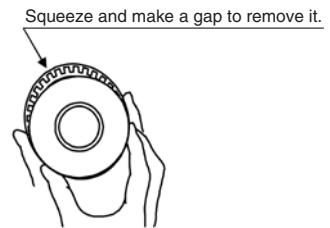

Fig. 2 Removal of piston seal
- ③8 Piston seal: Remove the piston seal. (Fig. 2)
- ④0 Cylinder tube gasket: Insert a watchmakers screw driver to pull out the seal.